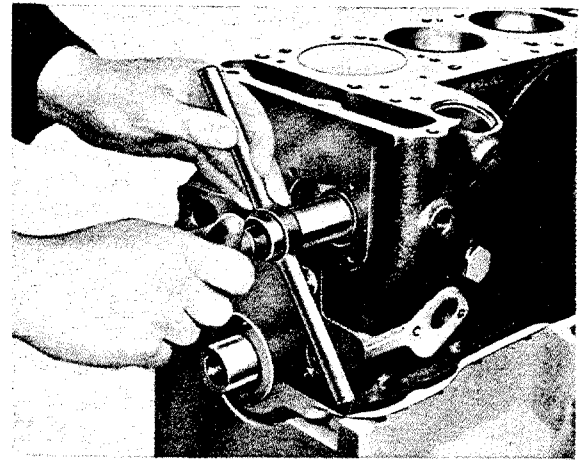

Fig. M 3/46
46. Press intermediate gear on shaft with tool 187 589 07 61 (Fig. M 3/46).